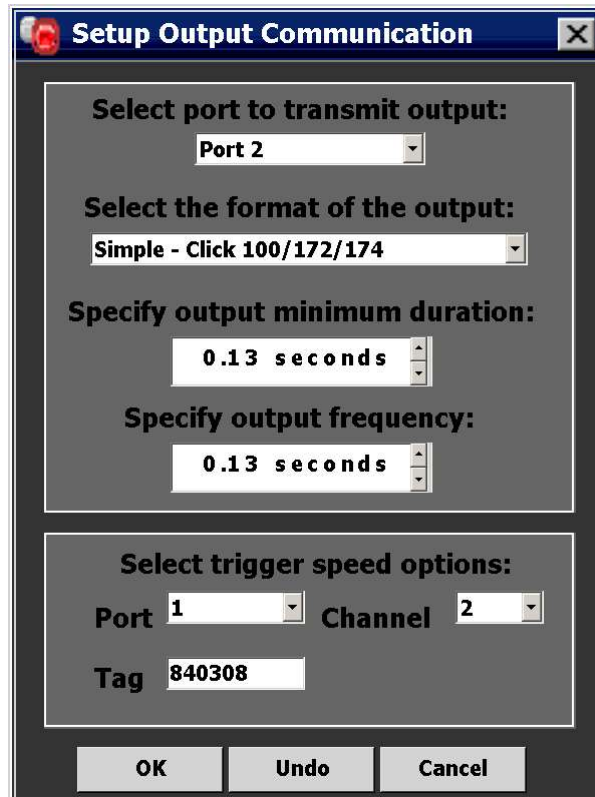

Figure 8: Wavetronix SmartSensor Advance Setup
4. In the Select trigger speed options area, use the dropdown next to **Port** to select the proper port to monitor for speed. This is usually the port that is not already selected in the top portion of this interface. For example, Figure 8 shows "Port 2" selected in the "Select port to transmit output:" field, so speed trigger port will be "1").